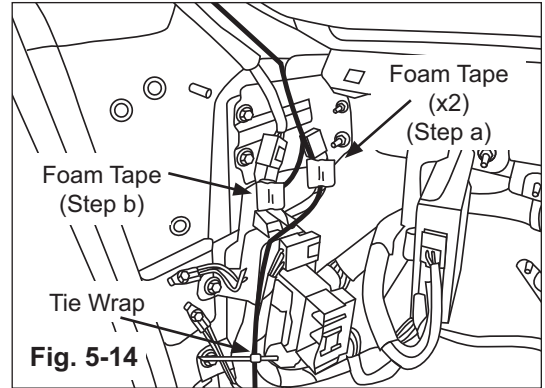

Fig. 5-14
- a) Wrap two (2) pieces of foam tape around the previously connected male and female connectors from page 10, step 2, and secure to OE harness as shown. (Fig. 5-14)
- b) Wrap one (1) piece of foam tape around the un-used female portion of the T-harness to existing OE harness as shown. (Fig. 5-14)
- c) Secure jumper harness to OE harness as shown with one (1) tie wrap. (Fig. 5-14)